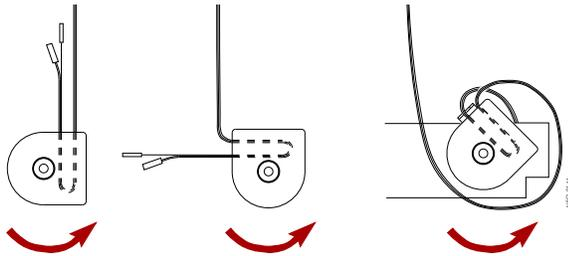

Figure 6. Wrapping the Cable Around the Spooler
- b. Rotate the spooler and cable **counter-clockwise** one full turn (Figure 6).